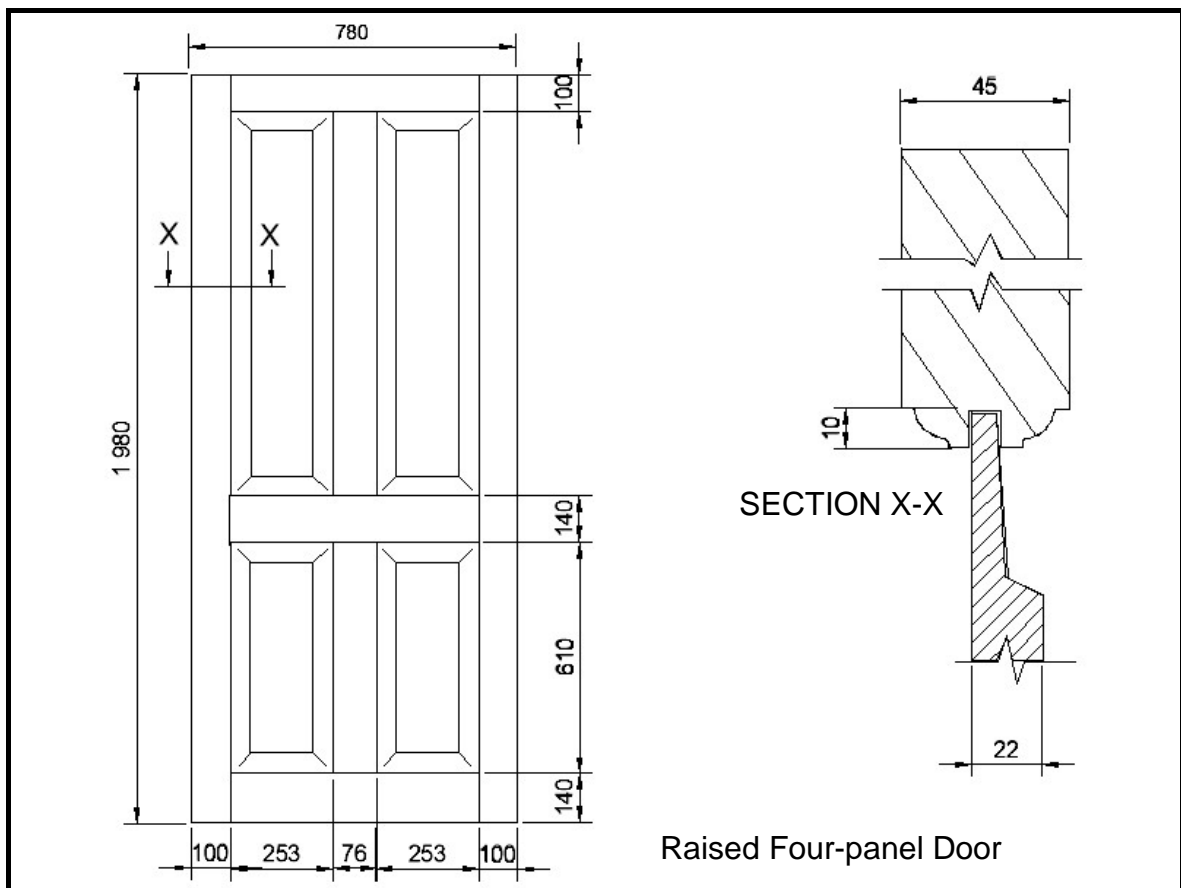

FIGURE 4.2
4.2 FIGURE 4.2 shows a diagram for a raised four-panel external door. In your Answer Book, write down 4.2.1 – 4.2.7 below one another and next to the number, deduce from the diagram the missing detail for the specific part of the door on the cutting list given.